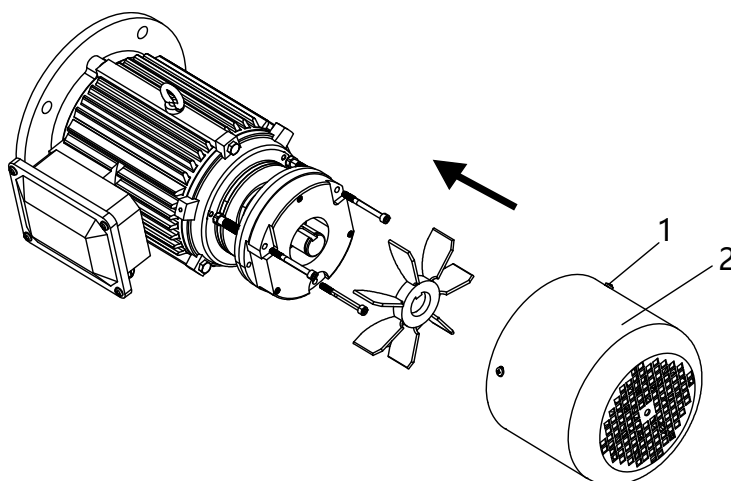

Fig. 6-19
- 3) See Fig. 6-19, install the fan cover ② and tighten the retaining bolts ①.